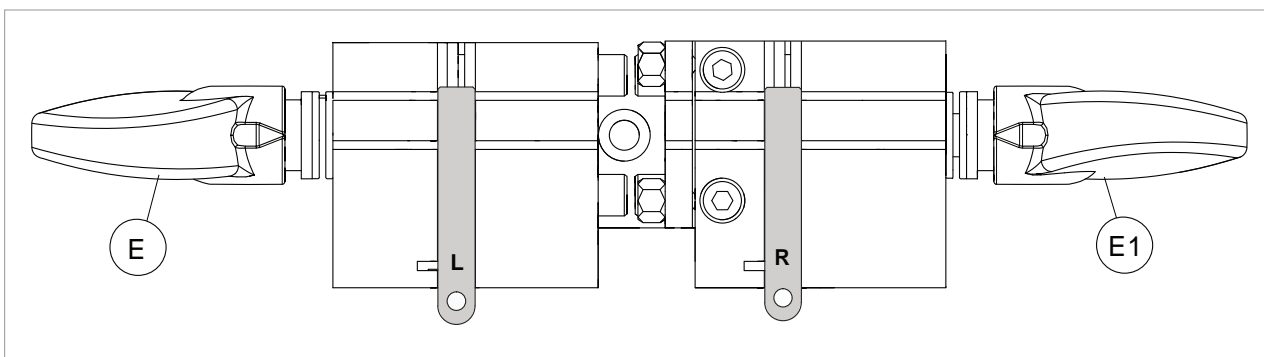

Fig. 18
- 1) Turn off the motor with switch (Q).
- 2) Fit the “L” calibration bar into the left-hand clamp (tracer side) and lock with knob (E) (Fig. 18).
- 4) Lock nuts (H2) and (O).
- 5) Slightly loosen the grub screw (M) locking the tracer. Pull down the tracer point approx. 4 mm.
- 6) Use lever (J) to lower the vertical carriage and take the tracer and cutter into contact with the two bars.
- 7) Tighten the tracer grub screw (M).